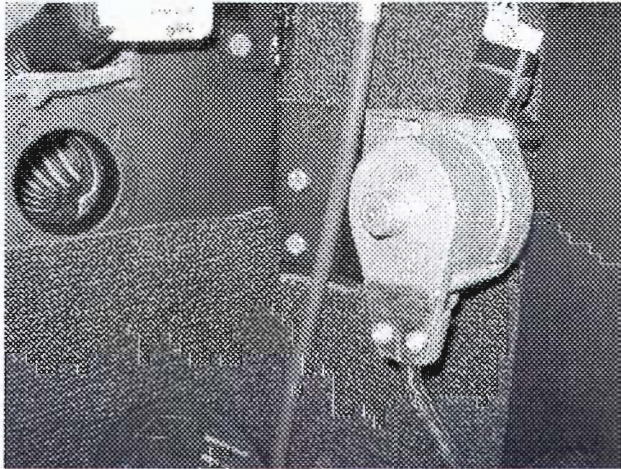

FIGURE 6
9. Reinstall the accelerator pedal assembly using the original hardware and torque locknuts to 6 ft-lbs. (Figures 6 & 7) Reconnect the wiring harness.